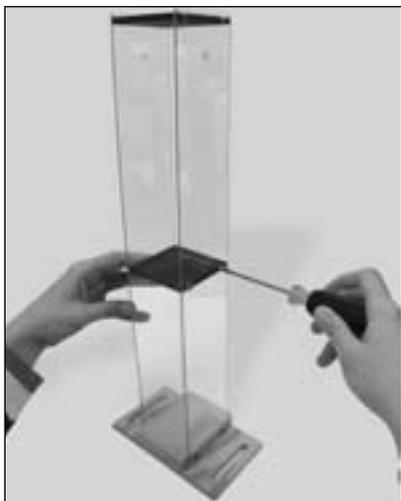

Figure 4
6. Repeat Step 5 for the other floor piece, except attach this floor piece to the holes in the middle of the side panels (Figure 4).